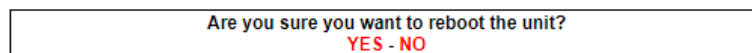

Figure 47. Configurator GUI (unit reboot dialog)
- The unit reboot dialog will be shown (Figure 47 (page 98)).